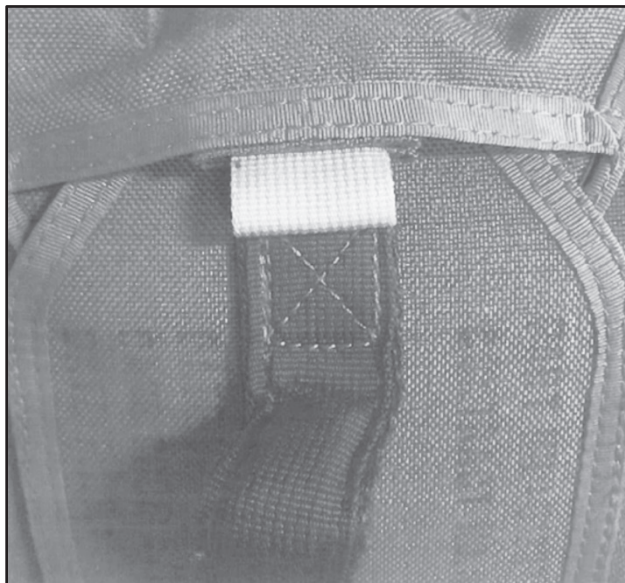

Figure 9-8. T-11R insert is flush with the binding tape
- Ensures that the top edge of the T-11R insert is flush with the binding tape on the tuck pocket and the yellow tab is visible. (See figure 9-8 on page 9-20.)